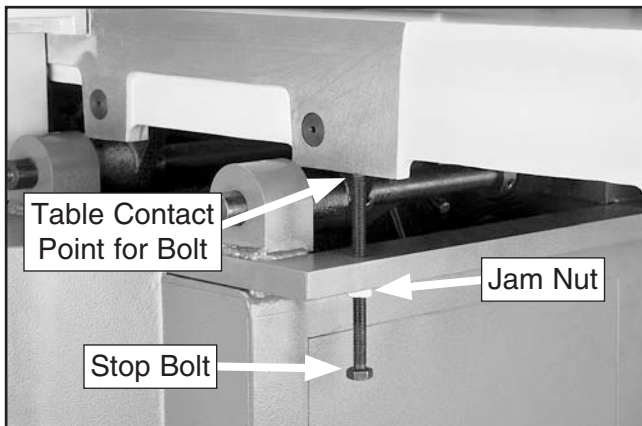

Figure 45. Outfeed table stop bolt.
4. Loosen the jam nut and stop bolt located under the outfeed table (see **Figure 45**). Make sure to back the stop bolt away from the area where it contacts the table. This will allow the table room to move during the adjustments in the following steps.
3. Loosen the jam nut and stop bolt located under the outfeed table (see **Figure 45**). Make sure to back the stop bolt away from the area where it contacts the table. This will allow the table room to move during the adjustments in the following steps.
- Loosen the jam nut and adjust the outfeed stop bolt underneath the table so that it just touches the bottom of the tables, as shown in **Figure 45** on **Page 34**, then re-tighten the jam nut.